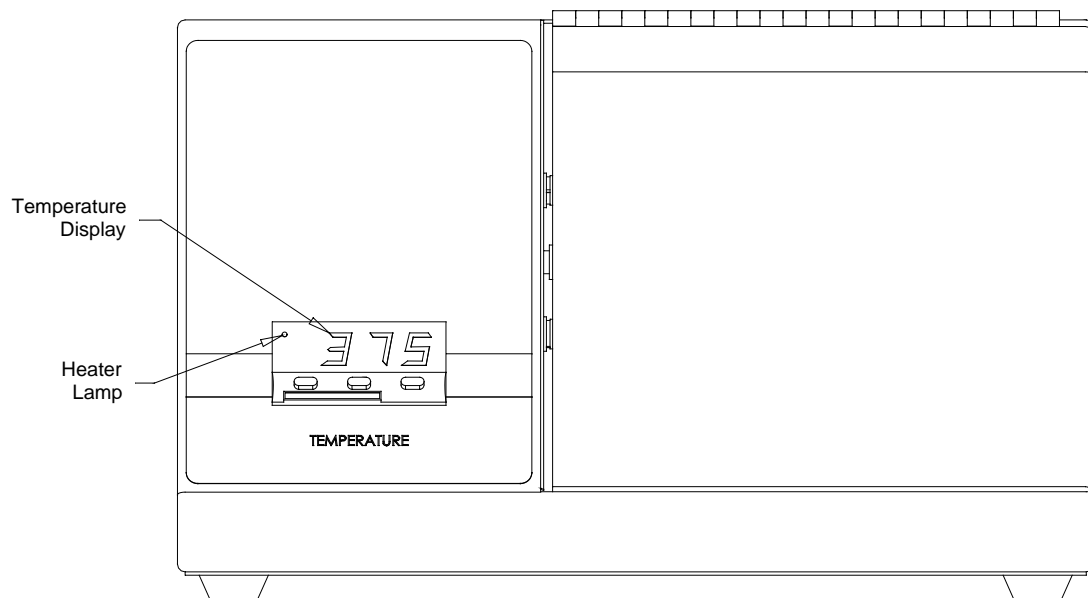

Figure 1
4.1 Controls and Indicator lamps (see figures 1 & 2).